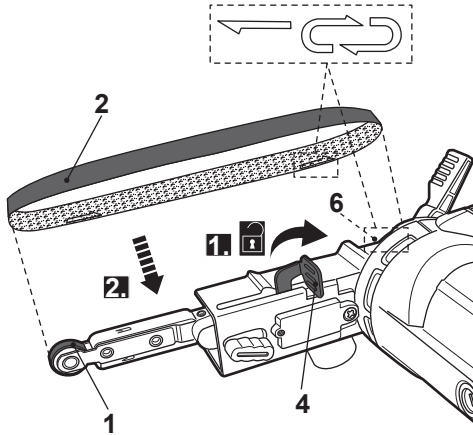

Fig. 2
- > Pull the clamp lever (4) backward all the way out (Fig. 2, step 1).
- > Pay attention to the rotational direction indicated on the inside of the sanding belt (2). Align the sanding belt (2) in accordance with the direction indicated on the product housing and slide it over the front roller (1) and the drive roller (6) (Fig. 2, step 2).